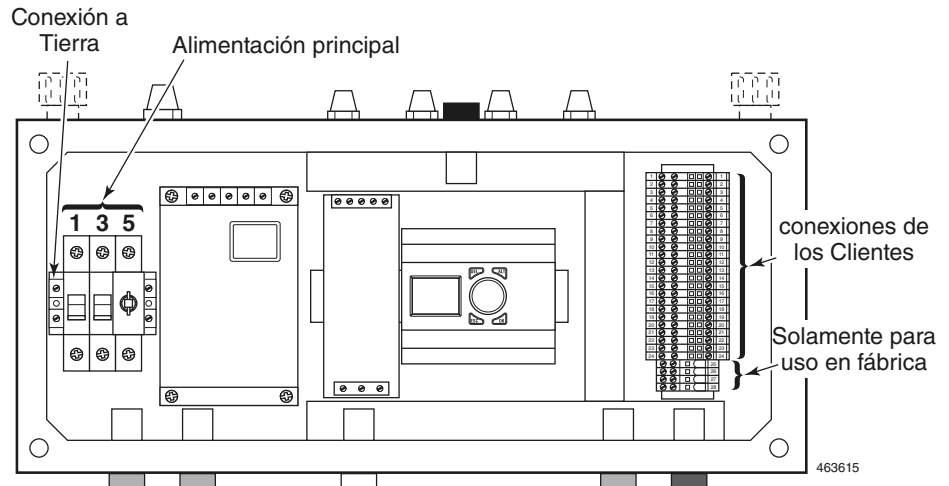

Figure 21
1. Install conduit and wire from the breaker panel to the left side of the control panel. See Figure 21.
See Figure 21.
Door control signal wiring is done at the terminal blocks located inside the Control Panel, on the right side. See Figure 21. There are many signals used to control the door Operator. The most common are pull cord switches or stations, three button stations (i.e. open, close, stop) and radio control. All three may be used separately, in combination, or all together. The control circuit is 24 VDC. Consult local electrical codes before proceeding with permanent installation.
7. Connect the wires of one of the pull cord switches to terminal blocks #5 and #9. See *Figure 21*.
Connect Input/Output wires in a manner similar to the pull cord wires (above). Refer to the *Terminal Blocks* section of the *R-Plus Doors ICC-5 Operator Quick Reference* manual and to the *Input/Output Guidelines* sheets to know where and how to connect these devices. See *Figure 21*.